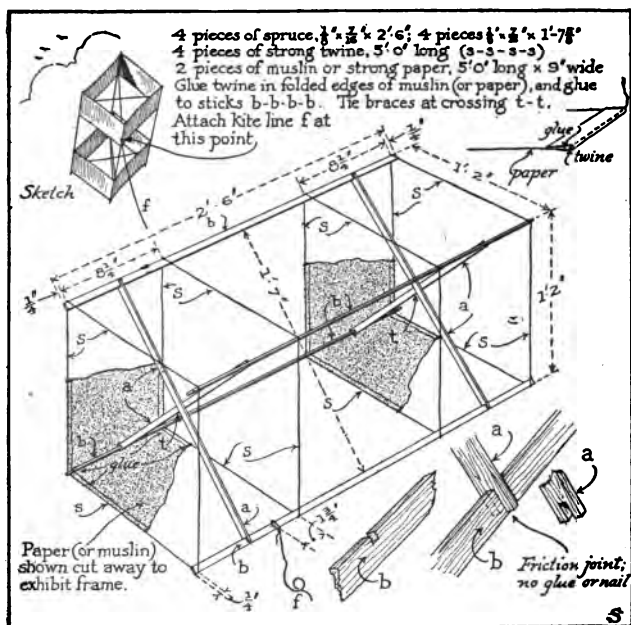

FIG. 235. Working drawings for making a box kite.
**Exercise 1.** Make a box kite according to the plan shown in Figure 235. Use pieces of wood free from knots, and cover the kite with a good quality of muslin.